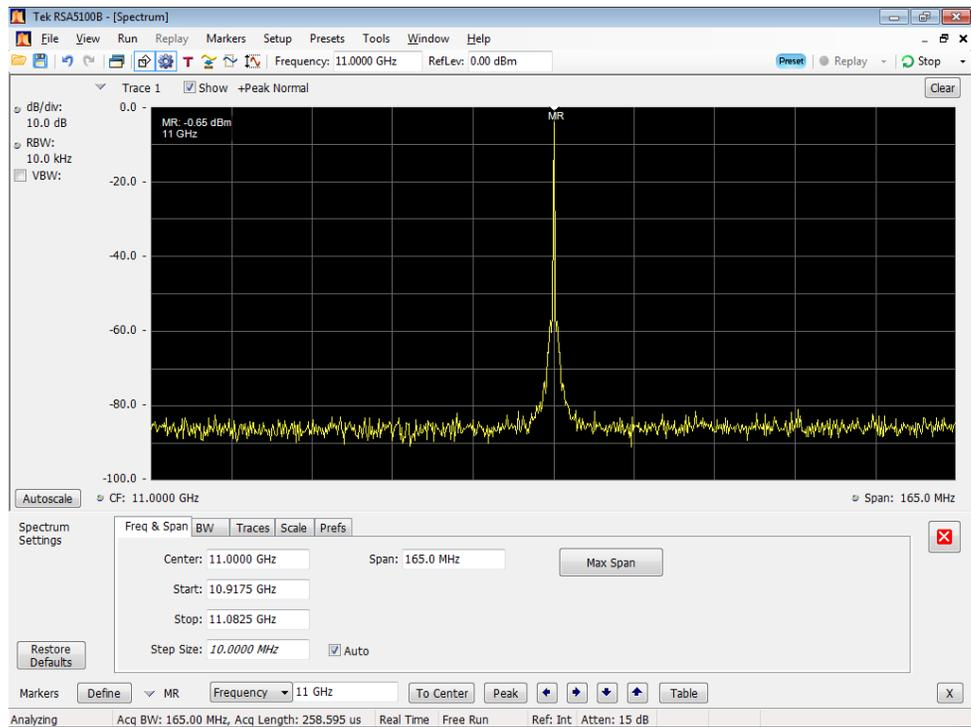

Figure 9: 11 GHz output waveform
22. Check that the Channel 1 waveform is properly displayed on the signal analyzer screen. (See Figure 9.)